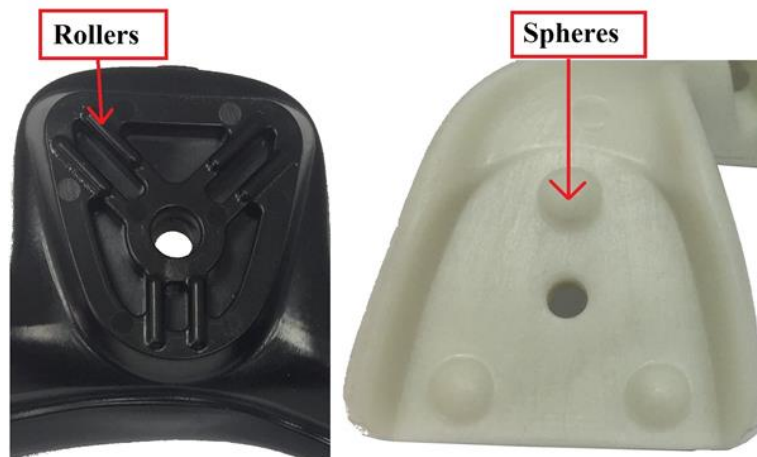

Figure 11: [Left] Rollers on Fiducial Array kinematic features. [Right] Spheres on YomiLink kinematic features
2. Orient the Fiducial Array so the rollers on Fiducial Array line up with spheres on the YomiLink mount. This will ensure the thumbscrew lines up with threaded hole on the YomiLink. See Figure 11 for reference.